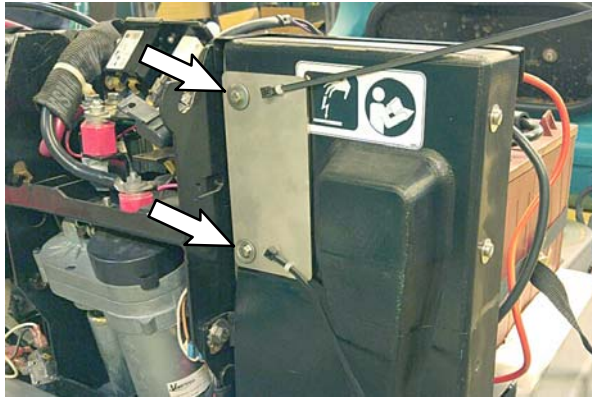

Fig. 7
4. Use the two M5 hex screws / flat washers securing the electrical panel cover to the machine to install the shunt bracket (7) onto the electrical panel cover. (Fig. 7)